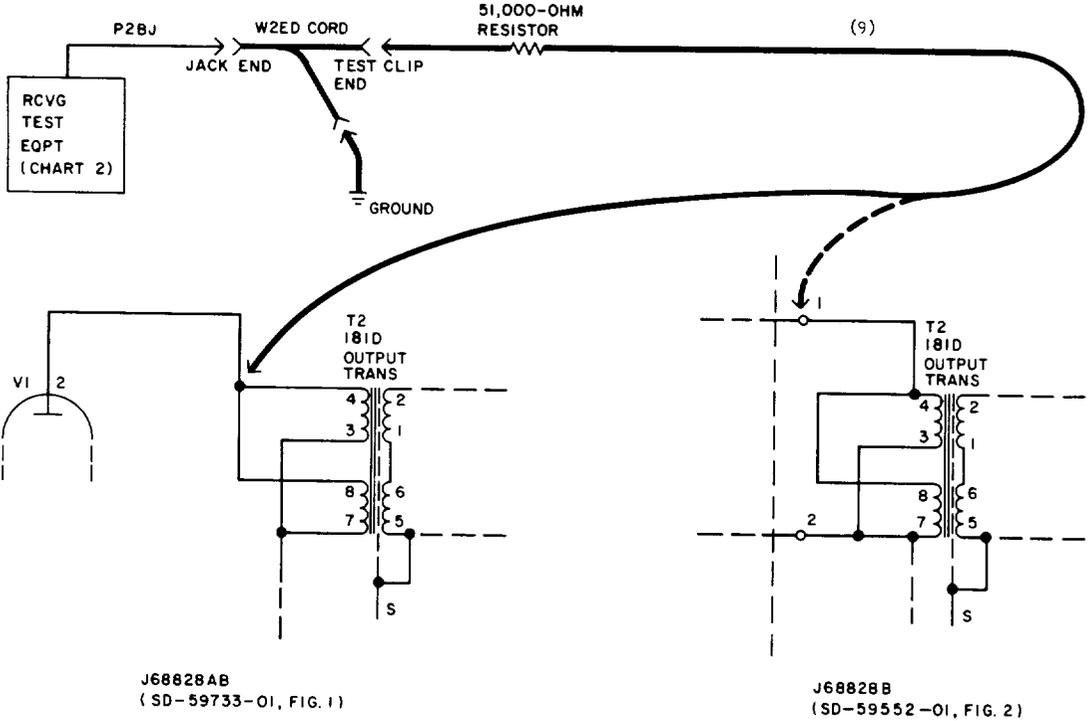

Fig. 4—Test Connections for Measurements at Output Transformer
23	Connect a 51,000-ohm resistor, using a W2ED cord, between output transformer T2 and the RTE [patch (9), Fig. 4].